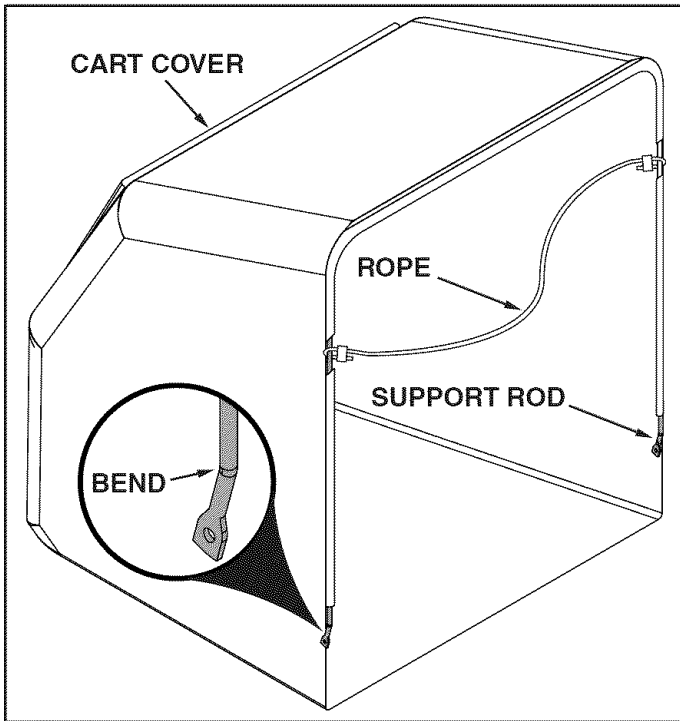

FIGURE 16
- Slide the second lower support rod through outer edge of the cart cover. Slide an end of the rope onto the rod end as it approaches each gap in edge. The **bend** in the rod must face in the direction shown in figure 16.